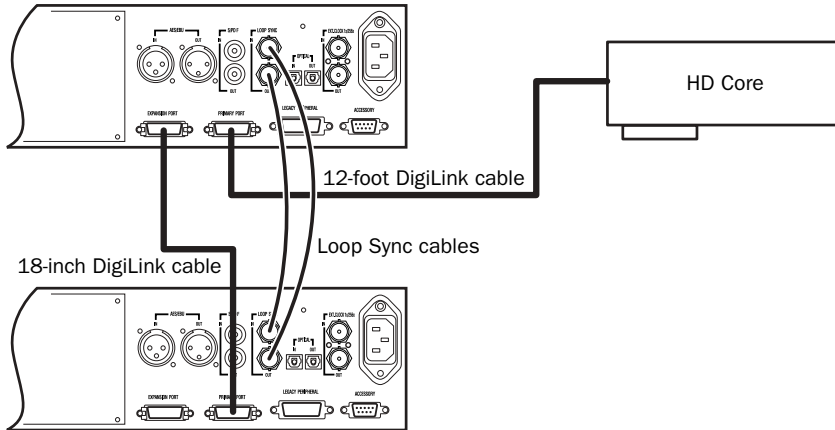

Figure 5. Two 96 I/Os, 32-channel
- 2** Connect a secondary HD-series audio interface to the Expansion port on the primary audio interface using the 18" DigiLink cable (included with the audio interface). See Figure 5 on page 7 below.